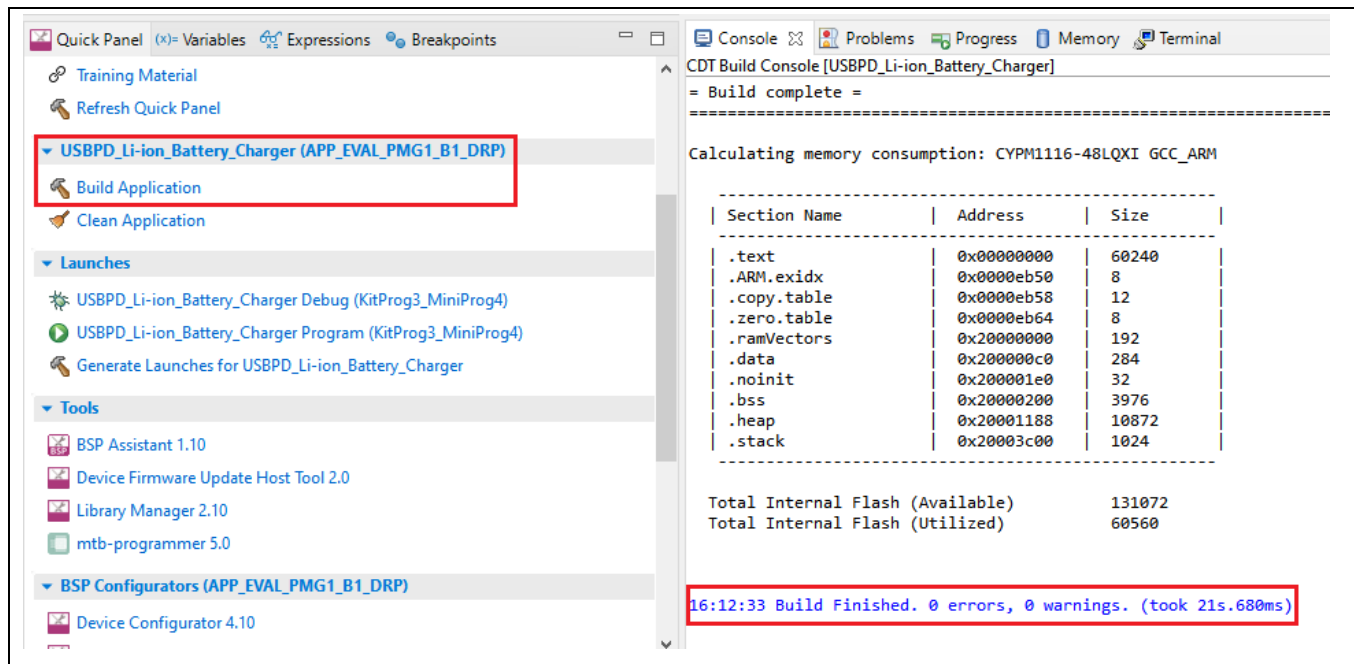

Figure 11 Building the application
2. Navigate to the Quick Panel and click on **Build Application** to start the build process, see Figure 11.